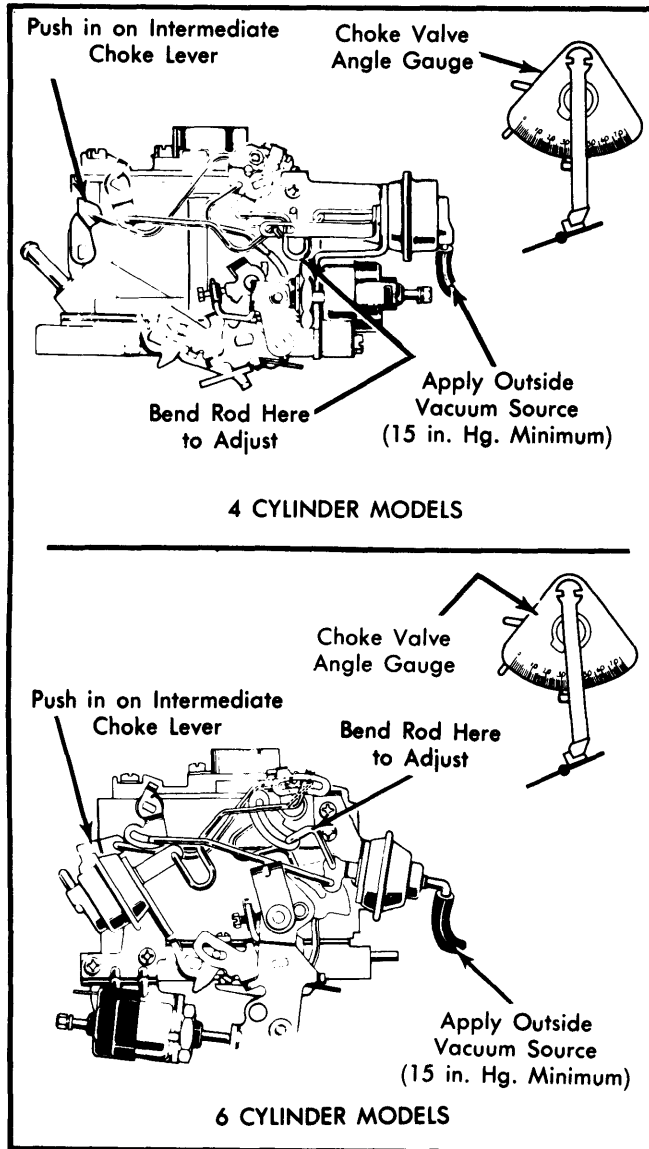

Fig. 7 Primary Vacuum Break Adjustment
- 1) Using an outside vacuum source of at least 15 in. Hg, seat primary choke vacuum break diaphragm. See Fig. 7.